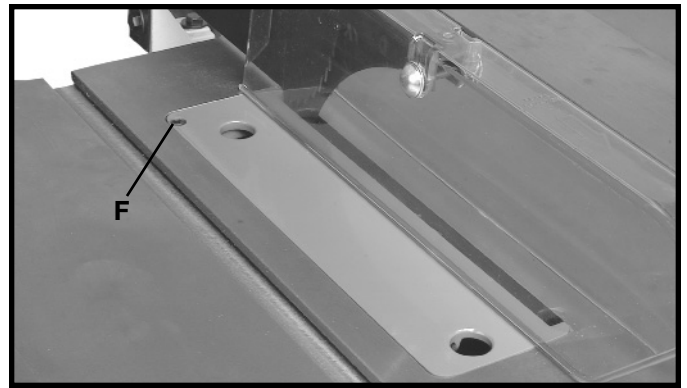

Fig. 24
12. Holding the clear blade guard, lower the saw blade and assemble the table insert (E) Fig. 24, into the opening on the saw table. Tighten screw (F) to fasten the table insert to the saw.